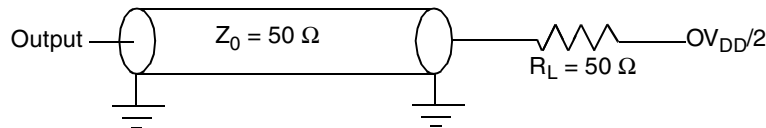

Figure 30. AC Test Load for the JTAG Interface
1. All outputs are measured from the midpoint voltage of the falling/rising edge of t_{TCLK} to the midpoint of the signal in question. The output timings are measured at the pins. All output timings assume a purely resistive 50-Ω load (see Figure 30). Time-of-flight delays must be added for trace lengths, vias, and connectors in the system.
2. The symbols used for timing specifications herein follow the pattern of $t_{(first\ two\ letters\ of\ functional\ block)(signal)(state)\ (reference)(state)}$ for inputs and $t_{(first\ two\ letters\ of\ functional\ block)(reference)(state)(signal)(state)}$ for outputs. For example, t_{JTDVXH} symbolizes JTAG device timing (JT) with respect to the time data input signals (D) reaching the valid state (V) relative to the t_{JTG} clock reference (K) going to the high (H) state or setup time. Also, t_{JTDVXH} symbolizes JTAG timing (JT) with respect to the time data input signals (D) went invalid (X) relative to the t_{JTG} clock reference (K) going to the high (H) state. Note that, in general, the clock reference symbol representation is based on three letters representing the clock of a particular functional. For rise and fall times, the latter convention is used with the appropriate letter: R (rise) or F (fall).
Figure 30 provides the AC test load for TDO and the boundary-scan outputs.
Figure 30 provides the AC test load for the I²C.